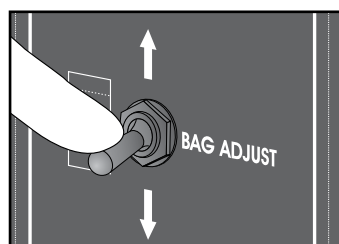

Figure 5
2. Flip the BAG ADJUST switch to dispense a bag. (See Figure 5)